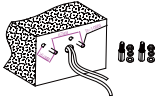

Figure 3-1
3.YOKE MOUNTING (YM)
Step1: Use a tool to punch two 67MM holes on the wall and then insert 2 expansion screws into the holes, Figure 3-1;